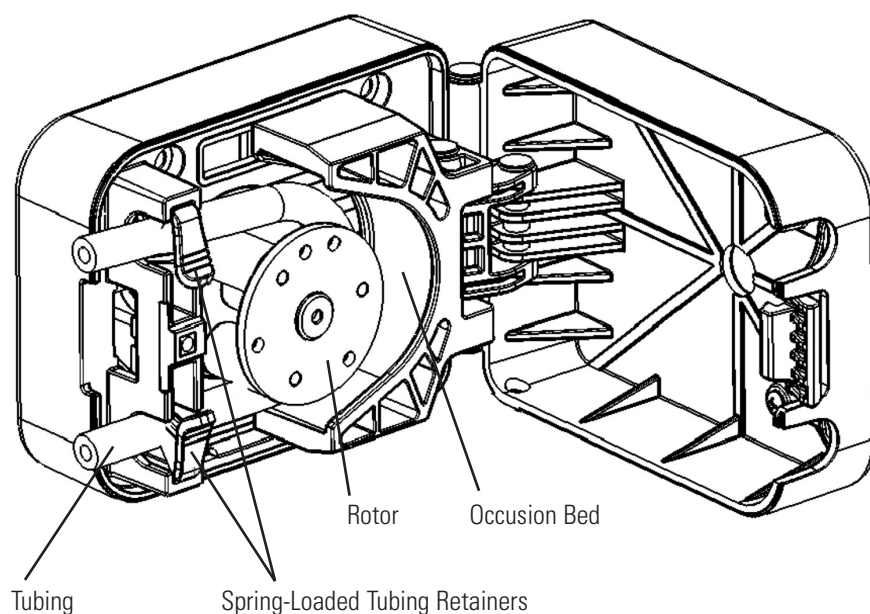

Figure 2-3. Loading Tubing
2. Depress tubing retainer (Figure 2-3) and insert tubing. Tubing will be held in place by retainer spring.
3. Insert the MASTERFLEX tubing inside tubing guide and around rotor, depress tubing retainer and insert tubing. Pull tubing snug against roller with the ends of the tubing extending out of the tubing entrance and tubing exit as shown in Figure 2-3 and release tubing retainer. Tubing should be centered on roller.